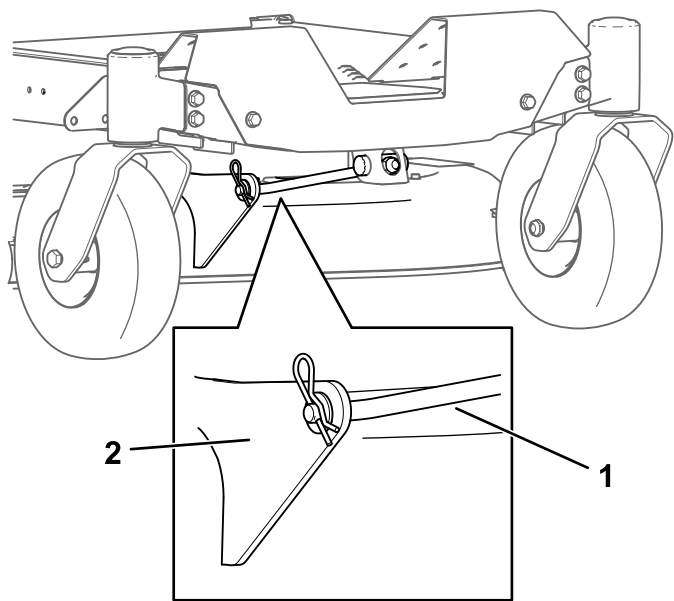

Figure 71
4. Remove the hairpin cotter from the front support rod, and remove the rod from the deck bracket (Figure 71).
8. Attach the front support rod to the mower deck with the clevis pin and hairpin cotter (Figure 71).